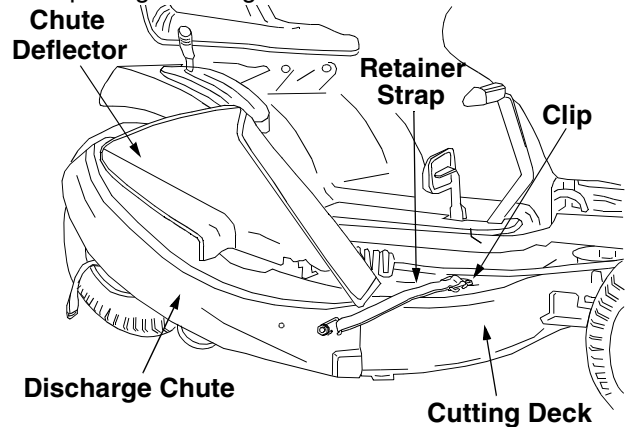

Figure 8
2. Place the top edge of the discharge chute in position over the chute opening on the deck, then push down on the discharge chute so the front edge fits snugly around the cutting deck opening. See Figure 8.
3. Fasten the discharge chute in position by hooking the retainer strap over the retainer clip on the top* of the deck. See Figure 8.